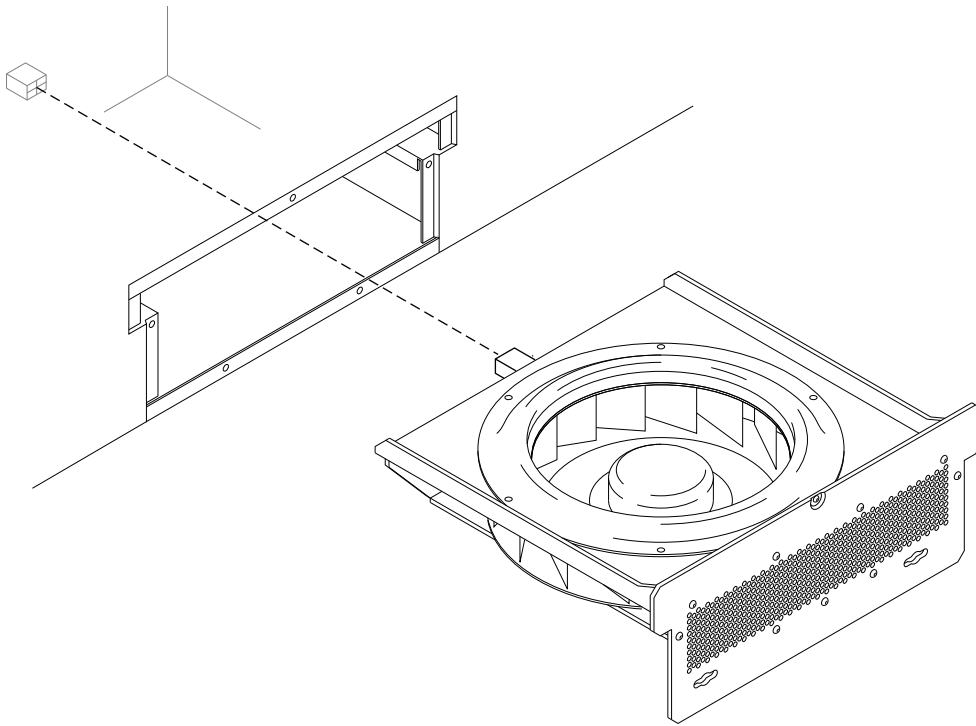

Figure 5-96 Replacing the Fan Module
3. Make sure that the fans have stopped spinning then remove the three screws that secure the blower module to the sheet-metal housing (see Figure 5-96).